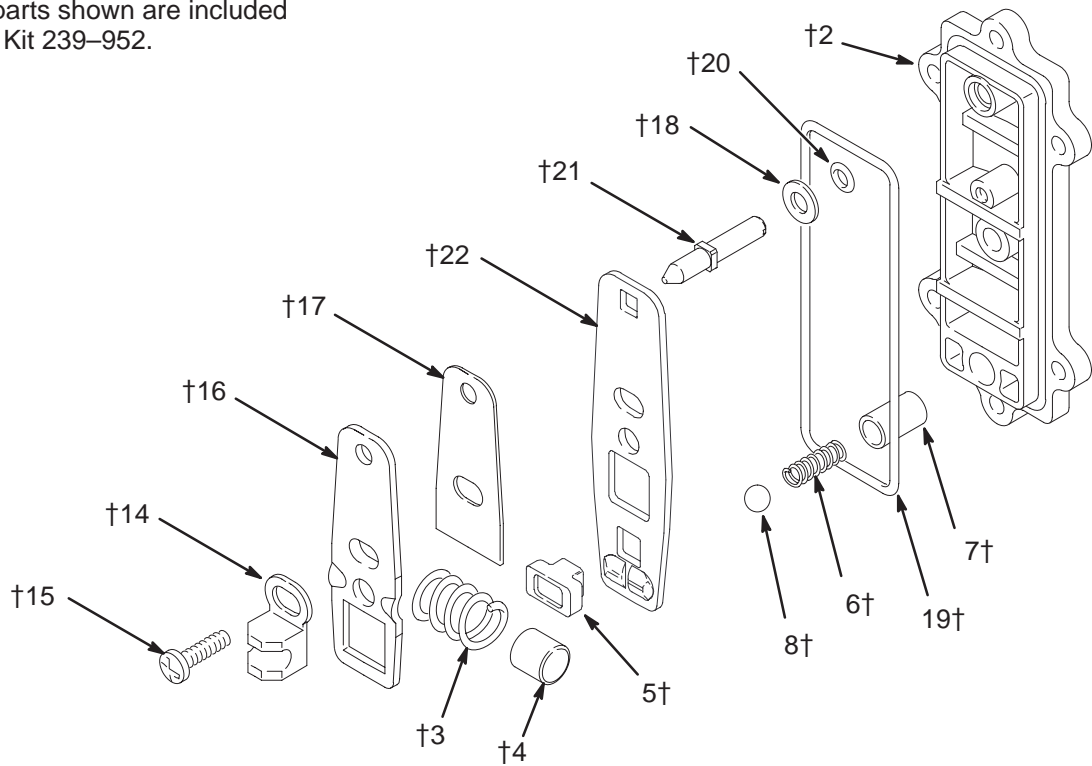

Fig. 14
2. Remove the air valve (A) from the pump (see page 16).
3. Remove the screw (15) and shift saddle (14). See Fig. 14.
4. Disassemble the link assembly, consisting of the actuator link (16), spacer (17), detent link (22), spring (3), stop (4), and valve cup (5).
5. Remove the detent ball (8) and spring (6). The detent collar (7) is a press-fit and should not need removal; if it does require replacement, you should also replace the cover (2).
6. Remove the reset shaft (21), o-ring (20) and washer (18).